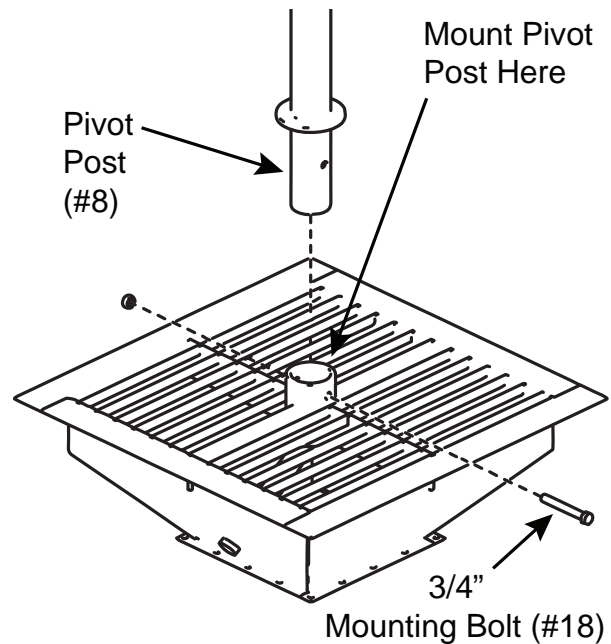
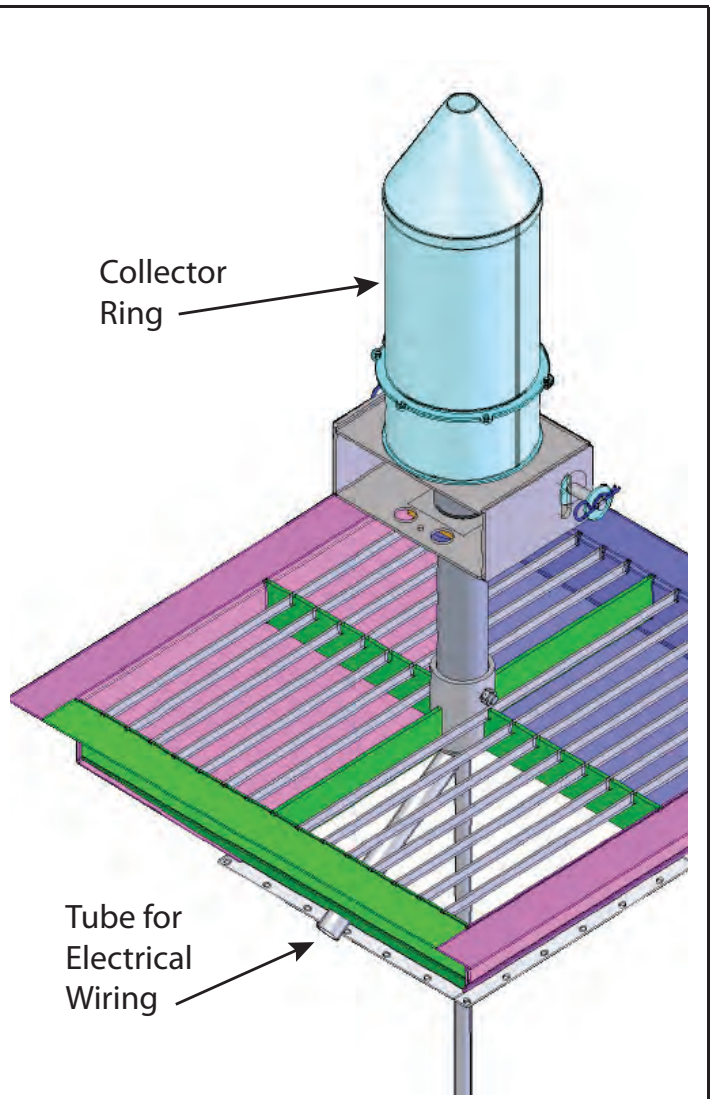

Figure 4-8: Install The Pivot Post on the Collector Ring Assembly Into the Sump as Shown Here
Figure 4-10: Collector Ring Exploded Vie
1. Review Figures 4-8, 4-9 and 4-10. The Collector Ring Assembly including the Pivot Post (#8) shown in Figure 4-10 are completely pre-assembled at the factory.
2. Lift the Collector Ring up and place the bottom of the Pivot Post (#8) into the Bin Center Pivot Assembly as shown in Figure 4-8.
3. Feed the existing Collector Ring wiring through the Pivot Post and out the Sump Tube. See Figure 4-10.
4. Install the 3/4" Mounting Bolt and Nut (# 18 and 19) and firmly tighten in place. See Figures 4-8 and 4-9.